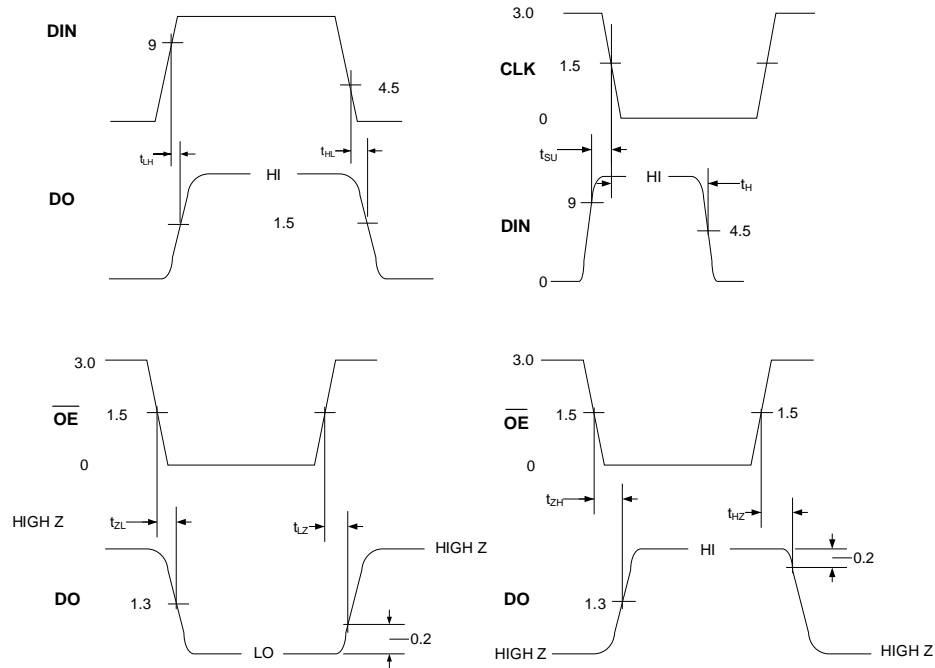

Figure 7 Switching Waveforms
3. Timing measured from DO = 1.5 V to VDIN = 9 V (Rising Edge) / 4.5 V (Falling Edge). See Figure 7.
5. Timing measured from /OE=1.5 V to DO=200 mV. See Figure 7.
6. Timing measured from CLK = 1.5 V to VDIN = 9 V (Rising Edge) / 4.5 V (Falling Edge). See Figure 7.